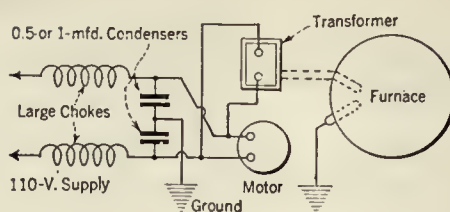

FIG. 6
Choke coils wired as shown in Fig. 6 and of the specifications shown in Fig. 7, entirely eliminated the interference from these two offenders; adding condensers brought all the trouble back again, so these latter were dispensed with.
**B**EFORE going any further we should stress a point, the importance of which is often overlooked. Let us suppose that you have eliminated the trouble by one of the choke coil methods, say Fig. 6. In this case you have deliberately or un-